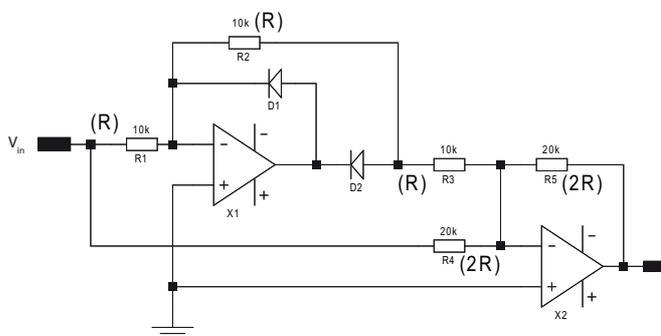

Figure 2 - Classic precision full wave rectifier (9 components)
With reference to Figure 2, for positive inputs, the transfer function is given by,,
From Equation 4 above, the absolute values and ratios of resistors R1 to R4 are critical to satisfactory performance of this circuit. It also shows that there are two ways that the values could be arranged for precision rectification. One of these, shown in Figure 2, is to make R1, R2 and R3 all same value (R), and then make R4 and R5 equal to 2R for unity gain. The other is to make R1, R3, R4 and R5 the same value (R), and then make R2 equal1 to 2R. This also gives a unity gain. The effect of R5 in both cases is to apply an overall gain to the circuit. Its absolute value is not important so long as the condition given by Equation 4 is satisfied. This will only be the case if very close tolerance resistors are used.